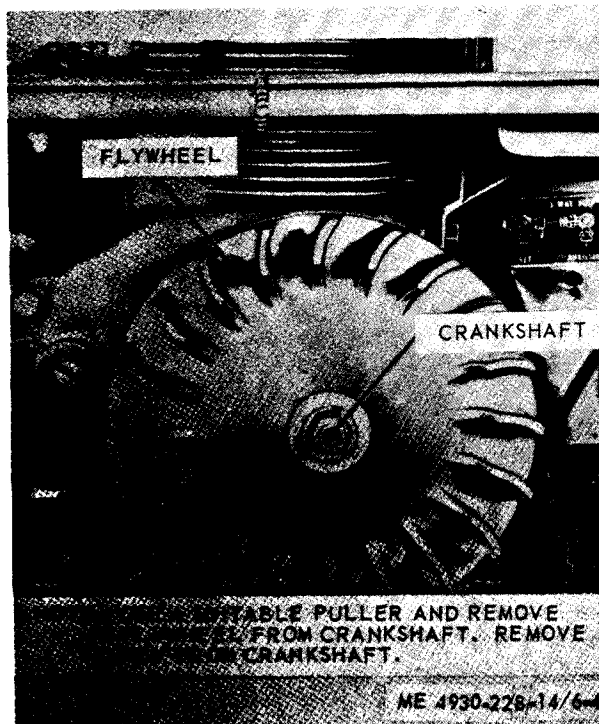

Figure 6-4. Flywheel removal.
- (1) Remove air shroud (para 4-18).
- (2) Refer to figure 6-4 and remove flywheel.
- (1) Refer to figure 6-4 and install flywheel in reverse order of removal.
- (2) Install air shroud (para 4-18).